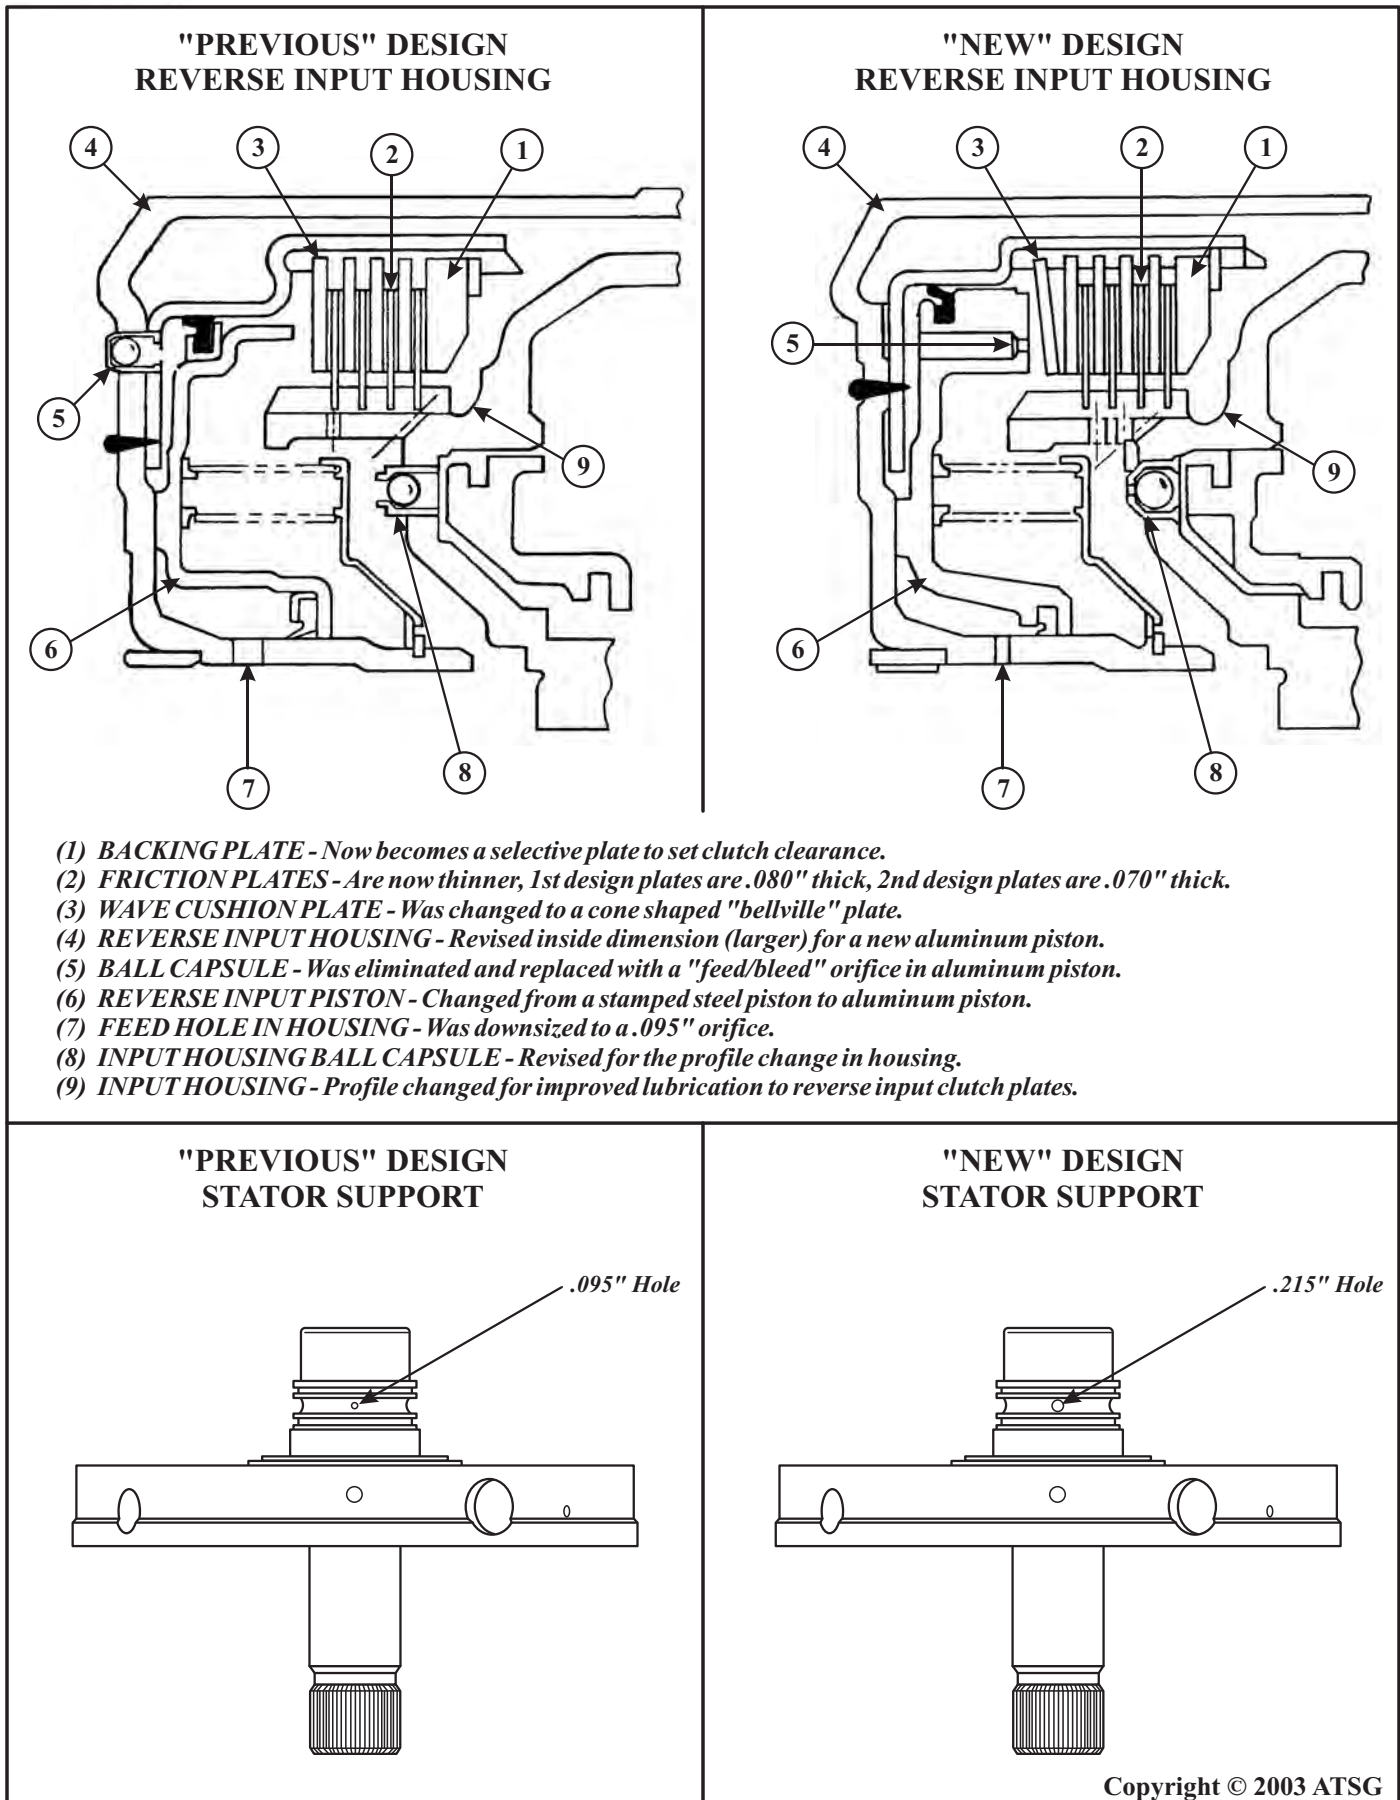

Figure 44
- (1) REVERSE INPUT HOUSING - Several changes occurred here and are as follows:
- (a) The Reverse Input Housing has a revised (larger) inside dimension to accommodate the new larger aluminum reverse piston, as shown in Figure 44.
- (b) The feed hole on the inside diameter of hub in the housing is reduced to .095" diameter, as shown in Figure 44. Previous design has a .151" X .197" rectangular hole.
- (c) The air bleed "Ball Capsule" is eliminated from the reverse input housing and replaced with a .095" orifice hole in the new aluminum piston, as shown in Figure 44.
- (d) The reverse input piston changes from stamped steel to cast aluminum (See Figure 44).
- (e) The reverse input piston lip seals revised to accommodate the new larger aluminum piston as shown in Figure 44.
- (f) The "Wave" plate is replaced by a cone shaped "Bellville" plate. The "Bellville" plate must be installed with the inside diameter against the steel plate, as shown in Figure 44.
- (g) The thickness of the friction plates change from the previous .080" thick, to the new .070" thickness, as shown in Figure 44, and the reverse input clutch backing plate is now selective, also shown in Figure 44.
- (2) OIL PUMP COVER - The reverse input feed hole between the sealing ring grooves has been enlarged to .215", where the previous was .095", as shown in Figure 44.
- (3) INPUT HOUSING - The profile of the input housing was changed where it mates with the reverse input clutch plates, as shown in Figure 44. This change provides improved lube to the reverse clutch plates, and also requires a revised dimension checkball capsule in the input housing, as shown in Figure 44.